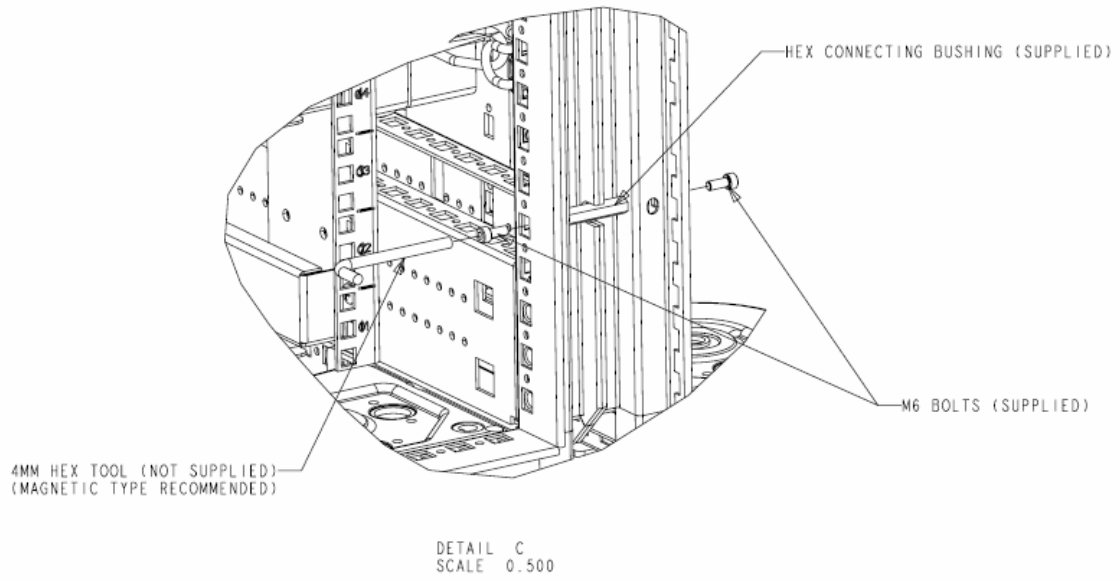

Figure 4.5 Rear Baying Instructions [Detail C] - 2 of 2
2. Look for a common notch in frames where the baying connection will be made (one at the bottom and one at the top). See Figure 4.5.